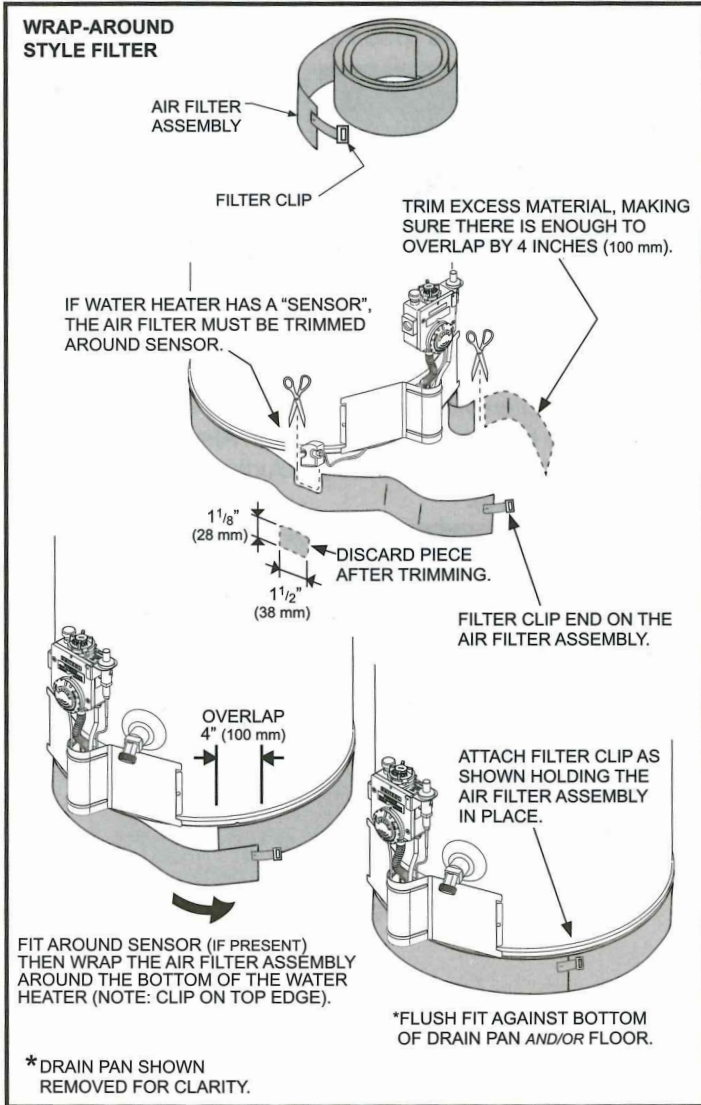

Figure 6
2. **Installation:** Wrap the filter around the base of the water heater. Cut to fit around a sensor if present. Trim excess filter material with scissors but allow filter material to overlap a few inches (see Figure 6).
- The filter should fit snugly against base of water heater with no gaps. The filter must fit flush against the bottom of the drain pan and/or floor. Hold the filter in place, stretch the filter clip over the overlapped joint and hook in place (see Figure 6).